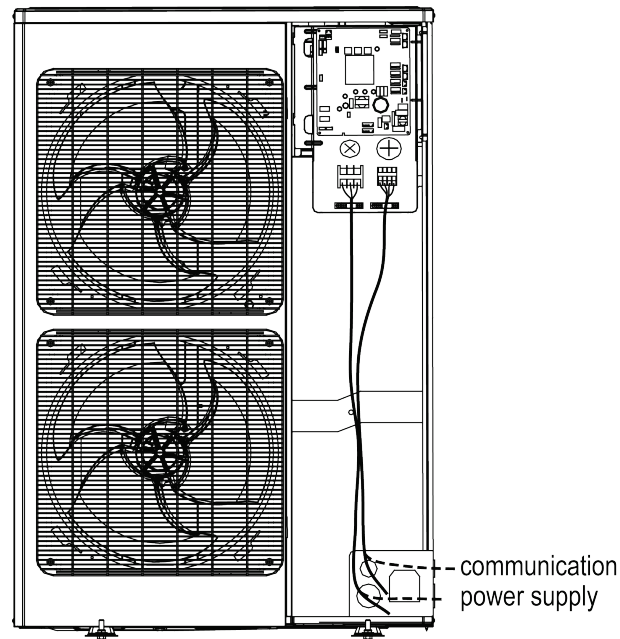

Fig. 4.24
- (1) Please refer Fig.4.24 and 4.25 for engineering wiring. If there is the hole for cable tie in wiring route, please fix the wire with cable tie. Connect the power cord and communication cable to the corresponding terminal board and grounding screw according to the wiring diagram.
- (2) Please be noted that engineering wiring cannot touch the pipe and appliance.
- (3) This figure is only applicable for engineering wiring reference of power supply and communication cable. If there are differences between the figure structure and actual unit, please refer to the actual unit.
- (4) For engineering wiring, please refer to the wiring diagram provided with the unit.